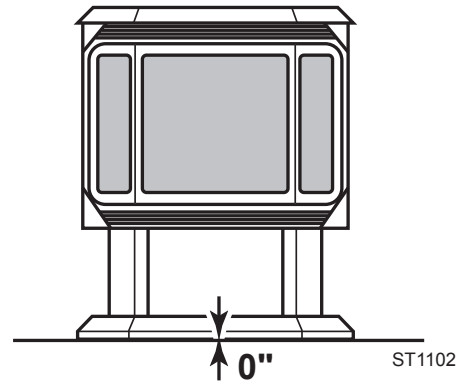

Figure 5 - Clearance to Floor
- No clearance is necessary to the floor. Stove may sit on the floor. *Figure 5*